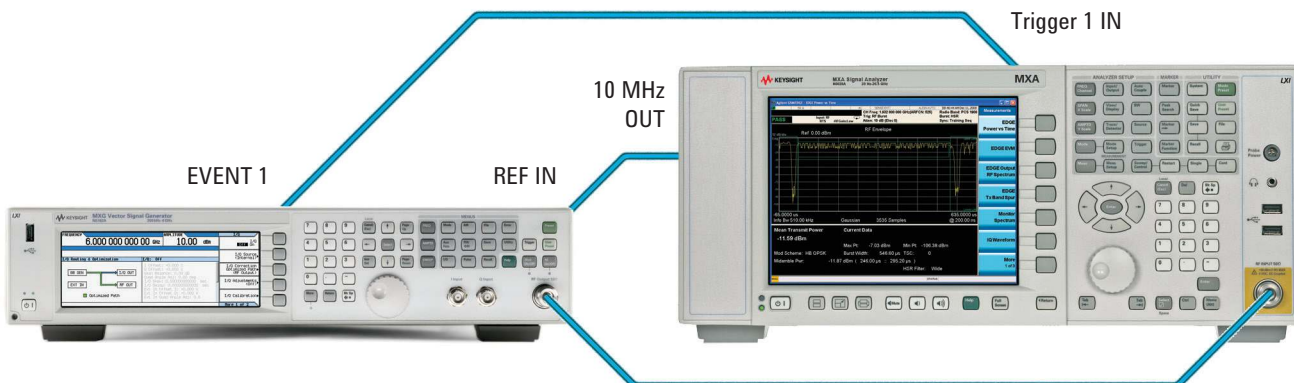

Figure 1. Connecting the X-Series and MXG
1. Using a 50 Ω RF cable, connect the **RF Output 50 Ω** port on the MXG to the **RF INPUT 50 Ω** port on the X-Series signal analyzer as shown in Figure 1.